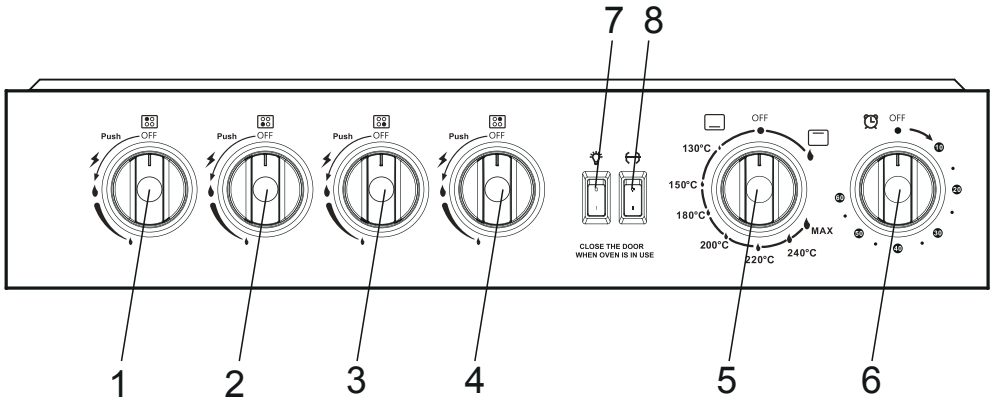
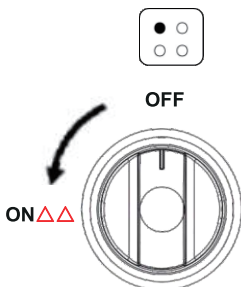
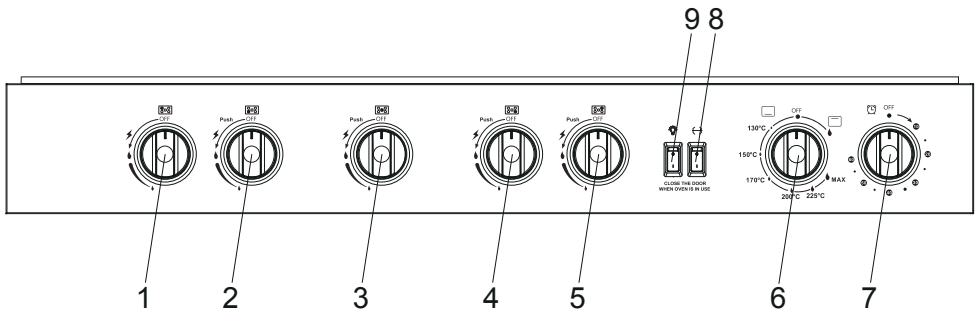
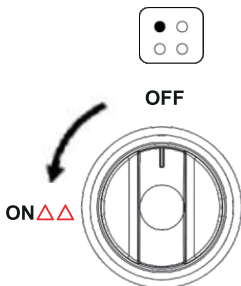

Figure 3
Figure 4
Figure 6
Figure 7
1 – Turn the knob (Part no 1-5 in Figure 3) in an anti-clockwise direction up to the (ON $\Delta\Delta$) position (maximum rate), Press the knob down for 3 seconds until the gas is ignited, then rotate to the left to 90°, until all the flame has been it. (Figure 4)
1 – Turn the knob (Part no 1-6 in Figure 6) in an anti-clockwise direction up to the (ON△△) position (maximum rate), Press the knob down for 3 seconds until the gas is ignited, then rotate to the left to 90°, until all the flame has been it.(Figure 7)
2 – Turn the knob (Part no. 4&5 in Figure 3&6) in an anti-clockwise direction up to the (**ON**△△) position (maximum rate), Press the knob down for 3 seconds until the gas is ignited, then rotate to the left to 90°, until all the flame has been it.
- For models with oven light function, the oven light can be turned on if pressing the oven light button, Press the rocker switch (Figure part No. 7 or 9 in Figure 3 or Figure 6) during the cooking process, before this make sure the power is already switched on by the plug.
Never continue Press the oven burner control knob more than 15 seconds. (Figure part No. 5 or 6 in Figure 3 or Figure 6) If the burner has still not ignited, wait for about 1 minute prior to repeating the ignition.